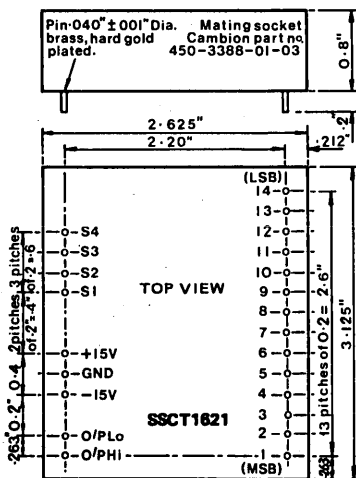

Figure 2. Pin Arrangement of the SSCT1621 (400Hz)
**400 Hz operation.** The physical form and dimensions of the 1621 for 400 Hz use are shown in Fig. 2. For operation on 400 Hz both the signal input transformers and an output transformer are encapsulated within the module. The signal connections are made via the pins marked  $S_1$ ,  $S_2$ ,  $S_3$  and  $S_4$ . For synchro use only the pins  $S_1$ ,  $S_2$  and  $S_3$  are used ( $S_4$  is not used). For resolver use, the sine input is applied between pins  $S_1$  and  $S_3$  and the cosine input between  $S_2$  and  $S_4$  and the polarities are such that if  $S_1$  is connected to  $S_2$  and both to common, then the voltages on  $S_3$  and  $S_4$  will be in time phase in the first quadrant.